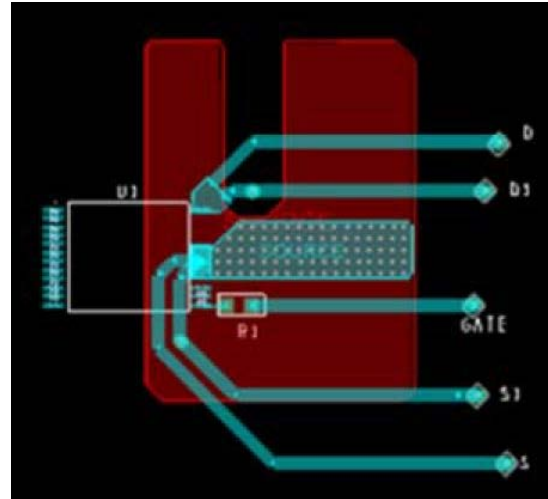

Figure 26. Thermal Resistance Test Conditions for PowiGaN Devices (INN3878C, INN3879C and INN3870C).
Testing performed on custom thermal test PCB as shown in Figure 26. The test board consists of 2 layers of 2 oz. Cu with the InSOP package mounted to the top surface and connected to a bottom layer Cu heat sinking area of 550 mm².
4. Please see Figure 26.